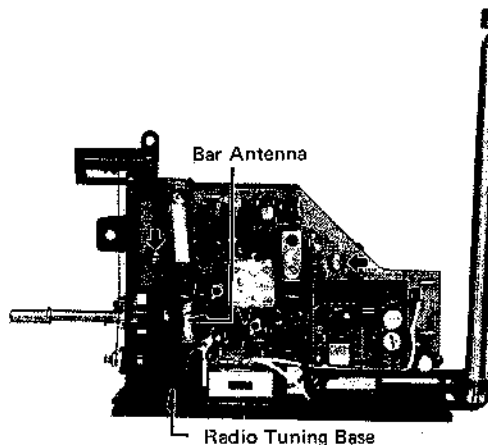

Fig. 8
2. Unscrew 2 screws indicated in Fig. 8.